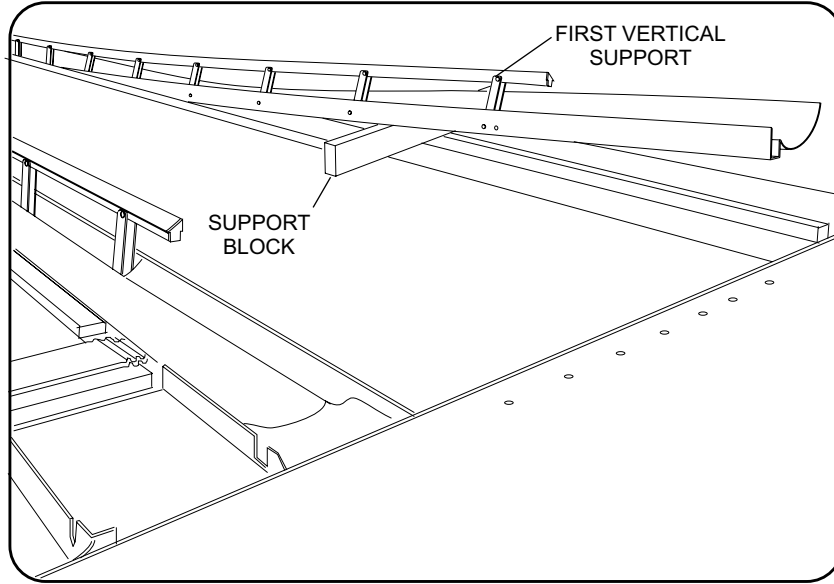

Figure 2
3. Support the front of the gutter section to allow removal of the existing vertical support. Refer to *Figure 2*.